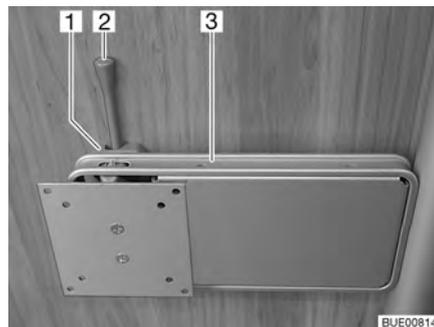

Fig. 51 Holder on the column
- Push the release lever (Fig. 51,2) to the side and turn the holder (Fig. 51,3) with the flat screen to the desired position.
- Turn flat screen back until the holder (Fig. 51,3) engages in the lock (Fig. 51,1).